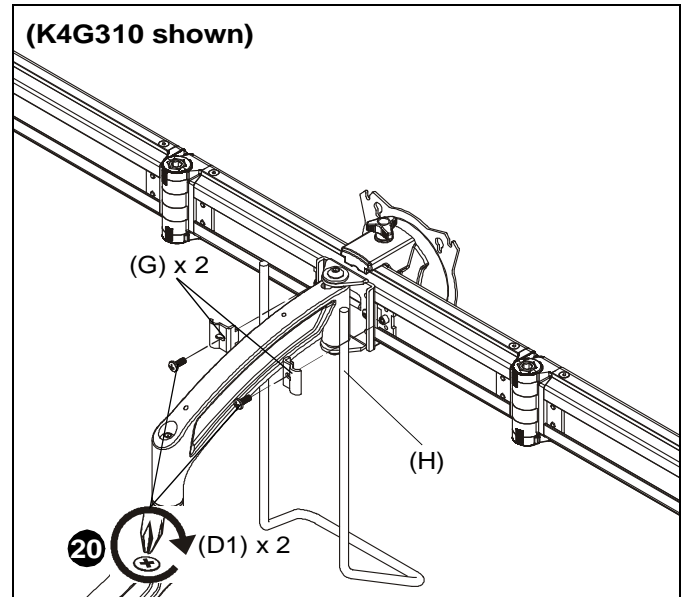

Figure 12
- 20. Use two #10-32 x 3/8" Phillips pan machine screws (D1) and two handle clamps (G) to secure handle (H) to array center (AA or BB). (See Figure 12)